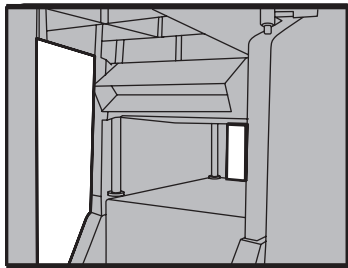

Fig 16
10) Turn the height adjusting handle (11) clockwise to raise the thickneser bed. This will secure the extraction port in place as well as engaging the safety interlock switch.
11) Once fitted correctly, the extraction port should look as in Fig 16.